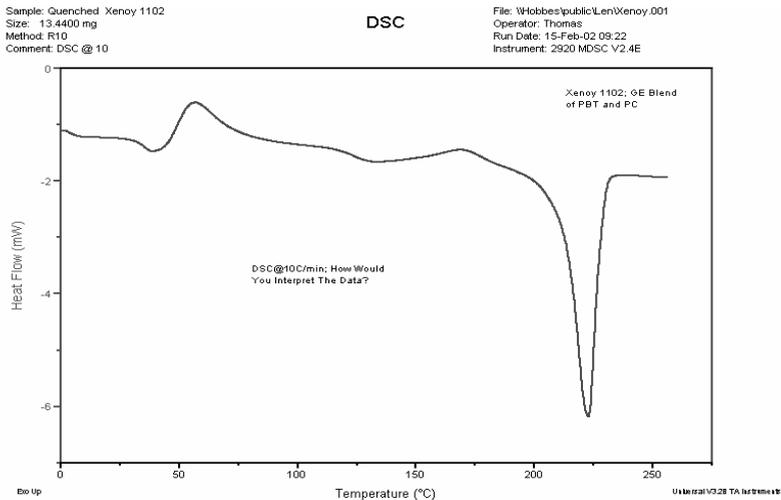

Figure 13. DSC of complex polymer blend
There is little doubt that blends of semi-crystalline and amorphous polymers are very difficult to characterize by traditional DSC. The reason is due to multiple glass transitions and often several crystallization peaks that occur while heating the sample in the DSC. Figure 13 shows DSC data on a common engineering plastic, Xenoy[®], a product of the General Electric company. Xenoy[®] is a blend of Polybutylene Terephthalate (PBT) and Polycarbonate (PC). Except for the melting peak near 225°C, the results are very difficult to interpret.